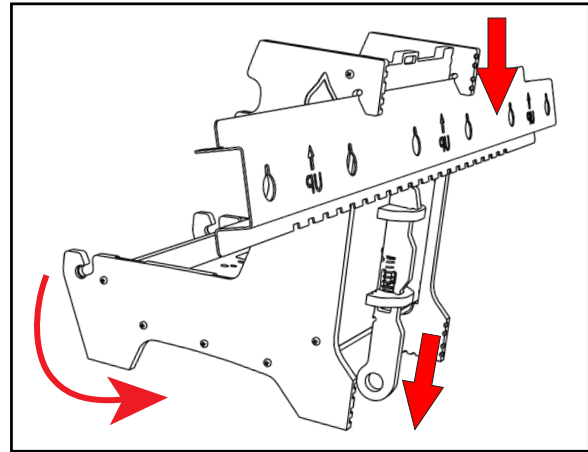

Fig. 5.1: Mounting PBX to rail with disengaged latch
2. Attach the Pump Box to the rail by releasing the spring-activated rail latch on the back of the Box as shown in [Figure 5.1].